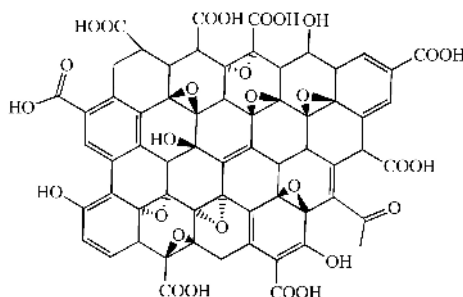

Figure 4.6.12: Idealized structure proposed for graphene oxide (GO). Adapted from C. E. Hamilton, PhD Thesis, Rice University (2009).
Probably the most common route to graphene involves the production of graphite oxide (GO) by extremely harsh oxidation chemistry. The methods of Staudenmeier or Hummers are most commonly used to produce GO, a highly exfoliated material that is dispersible in water. The structure of GO has been the subject of numerous studies; it is known to contain epoxide functional groups along the basal plane of sheets as well as hydroxyl and carboxyl moieties along the edges (Figure 4.6.12). In contrast to other methods for the synthesis of GO, the *m*-peroxybenzoic acid (*m*-CPBA) oxidation of microcrystalline synthetic graphite at room temperature yields graphite epoxide in high yield, without significant additional defects.